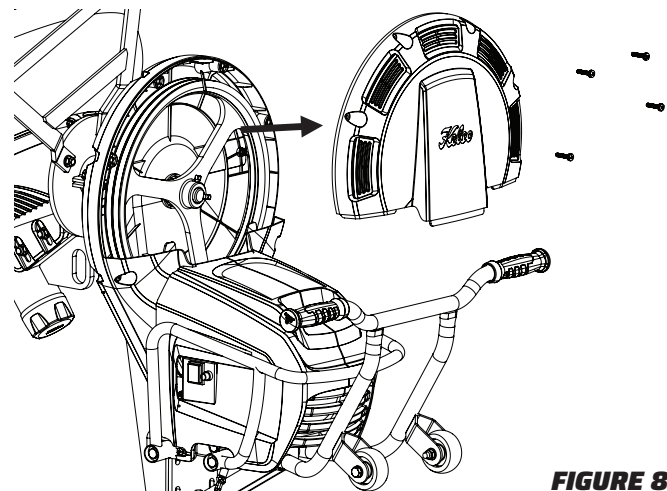

FIGURE 8
- To inspect the V-Belt tension, remove 4 bolts holding the upper pulley cover and remove. Inspect belt is under tension. **(Figure 8)**
- 2) Remove the inspection cover to view the upper pulley and V-belt. **(Figure 8)**